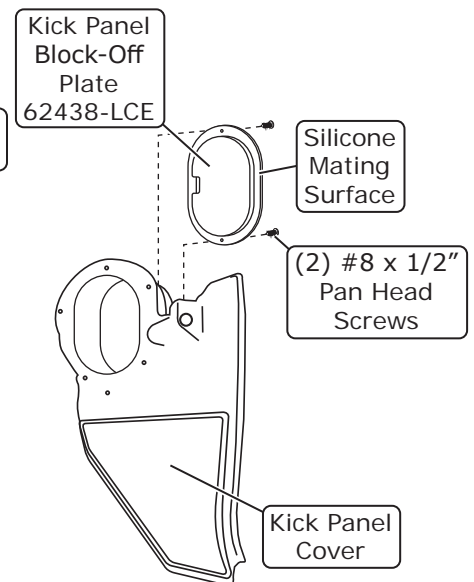

Figure 1c
13. Install the kick panel block-off plate using (2) #8 x 1/2" pan head screws (See Figure 1c, below).